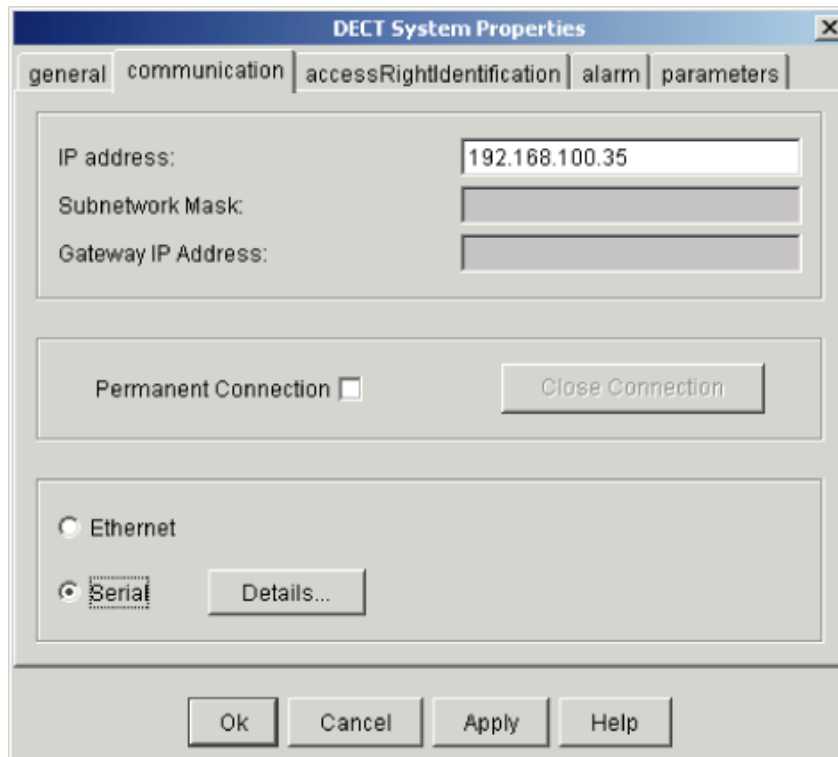

Figure 151: DECT System Properties - communication tab
5. Click the Communication tab to select it. See Figure 151: DECT System Properties - communication tab on page 220.